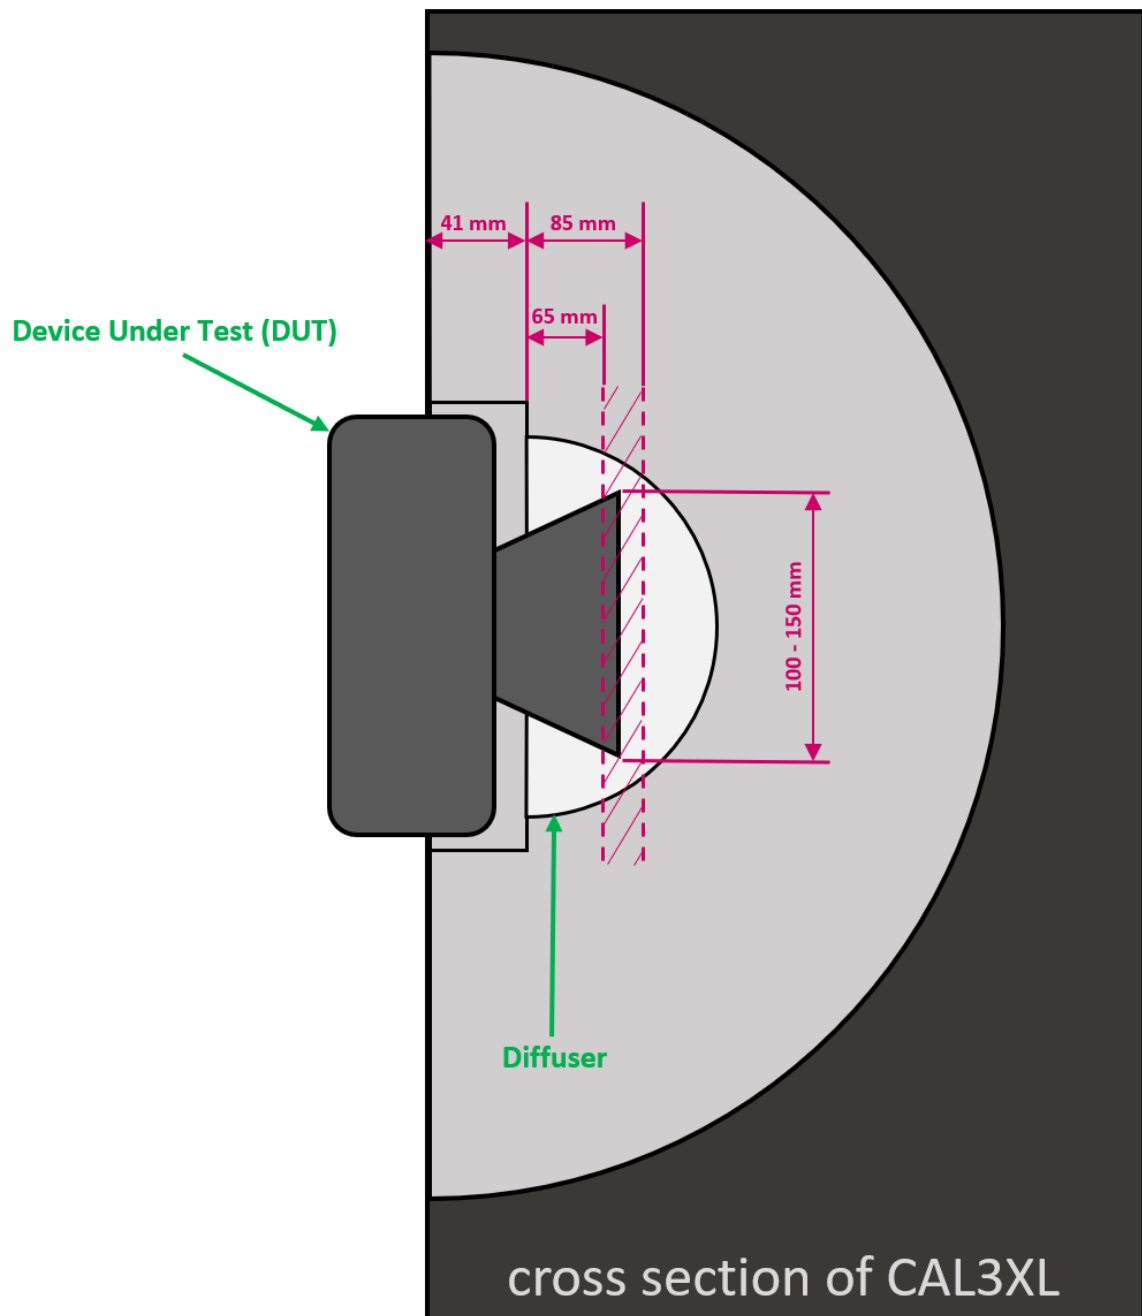

Figure 4: positioning of DUT in front of the CAL3-XL
- Lens depth **inside diffuser** (see Figure 4: positioning of DUT in front of the CAL3-XL):